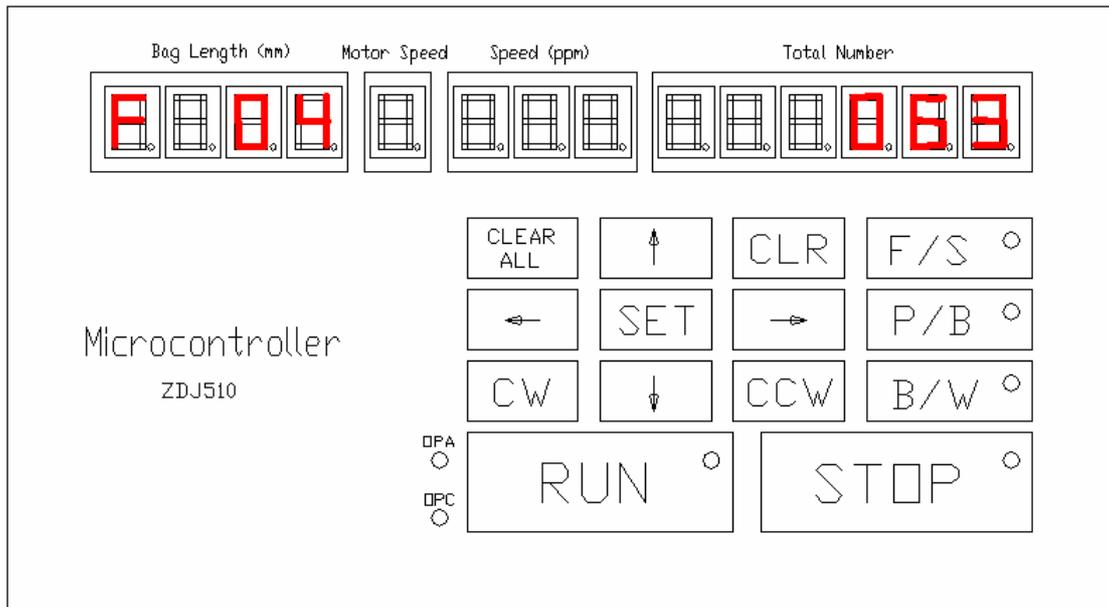

Figure 4. F 04 Roller Diameter Set
- **Roller's Diameter:** the diameter of roller, Unit mm. Only when stopping can roller diameter be modified. Press button 'SET' until 'F05' appears. Refer to Figure 4 in Appendix 1. '←' and '→' are used to circularly choose digit for modification. '↑' and '↓' are used to change the value. Max 130 mm, Min 30 mm.